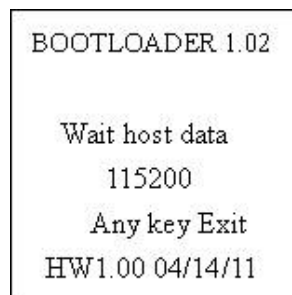

Fig 1
1. Press **F1** + **F2** + **PW** when the device is off to enable the Bootloader function as shown in Fig 1.